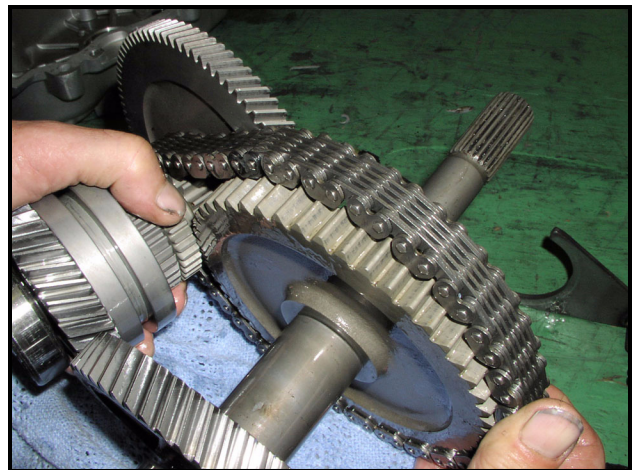

Figure 8-17 Remove Chain from Large Sprocket
19. Separate the intermediate and output gear assemblies by removing the chain drive from the large sprocket on the output shaft (**Figure 8-17, Page 8-7**) and (**Figure 8-18, Page 8-7**). See following **NOTE**.